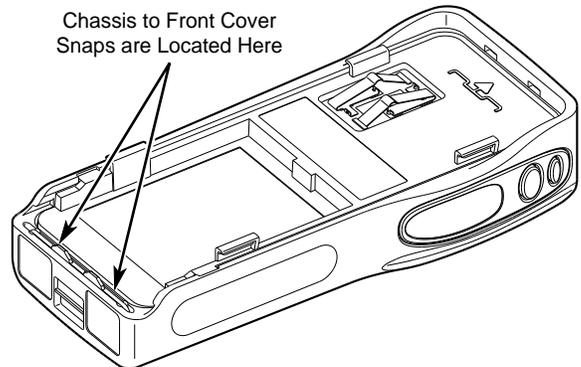

Figure 3-4.
3. Using a flat-blade screwdriver, carefully pry chassis up on both sides of slot at bottom center of radio (Figure 3-4).